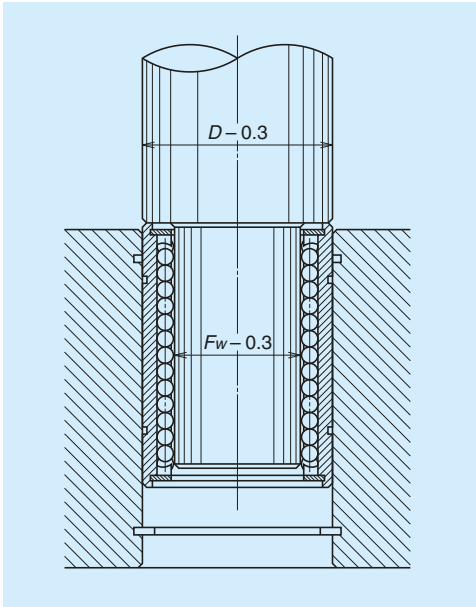

Fig. 9 Tool to install a linear rolling bushing
- To install linear rolling bushing, use a tool (**Fig. 9**) and squeeze it in, or use a holder and lightly pound it.